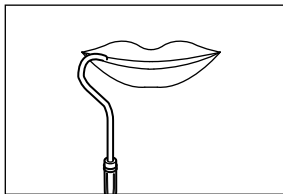
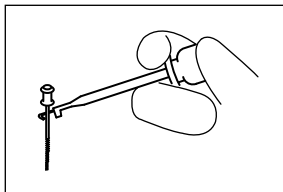

Fig. 12
Fig. 13
(2) Use
- ① Hang the lip hook on the corner of the mouth of the patient. (Fig. 12)
- ② Check that the power is ON.
- ③ Pinch the metallic shaft of the file inside the root canal with a file clip. (Fig. 13)
- ④ Carry out root canal end-measuring.